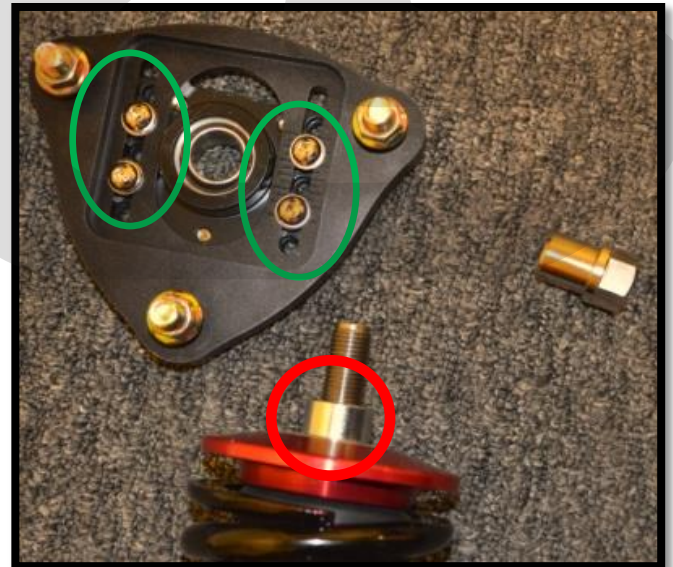

Figure 1c
b) **Adjust camber plate to be at the center adjustment and tighten all 3mm button head screws.** This will allow for an easier installation later. **Green circles** in **Figure 1c**.
c) **Place the CorkSport camber plates on the top of the assembly.** Make sure that stainless steel ring is under the camber plate (circled in **Figure 1c**).